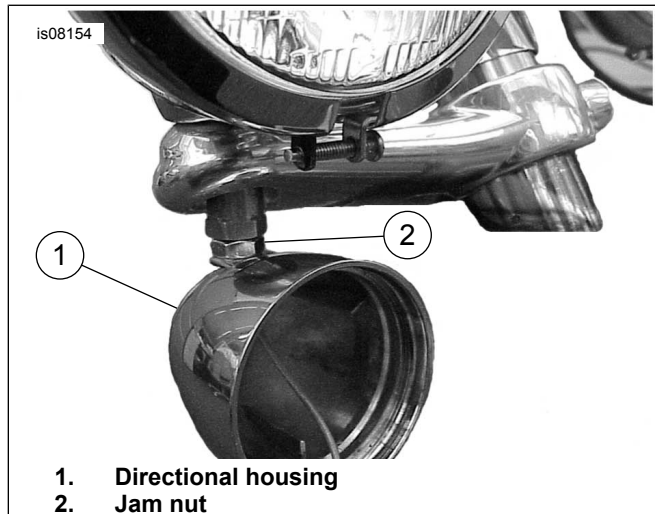

Figure 10. Install Directional
10. See Figure 10. Thread directional onto retaining nut until snug, then back off the minimum amount to allow forward alignment of lamp housings. Snug jam nut against directional housing to lock in place.